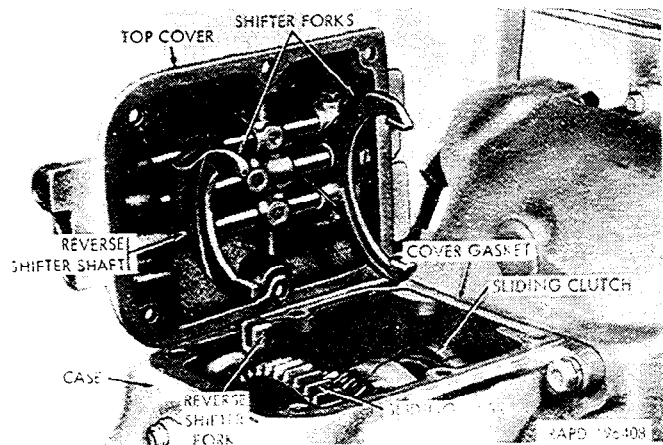

Figure 2-126. Transmission top cover removed.
(3) Clean the top cover and remove the six bolts and lockwashers that secure the cover to the transmission case. Remove the cable clip from the right front corner, and remove the cover (fig. 2-126). Remove and discard the cover gasket.
(1) Apply a coating of liquid type gasket cement to both sides of a new cover gasket and position the gasket on the transmission case.
(2) Install the cover carefully, engaging the rear shifter fork in the transmission sliding gear, the reverse shifter fork with reverse shifter shaft, and the front shifter fork in the sliding clutch (fig. 2-126).
(3) Install a lockwasher and bolt for the left